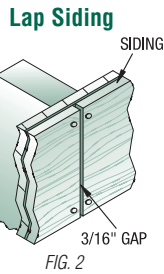

FIG. 2
- All lap products require that the butt joints be located on the studs and nailed at the joints. See Fig 2.
- Leave 3/16" gap at all butt joints, around all doors and window frames, and at joints in the soffits for all lap and square edge siding products. Caulk all gaps. *See Fig 2.*